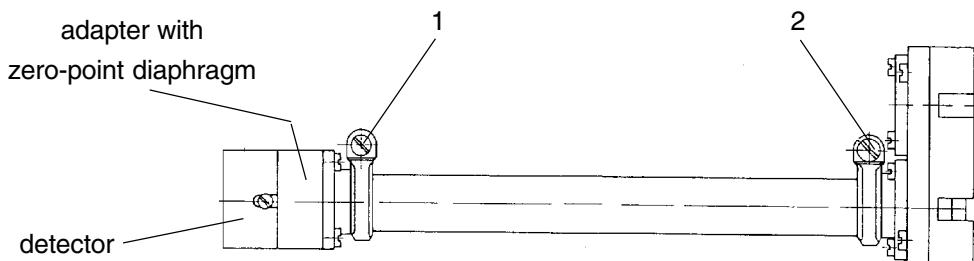

Fig. 17-4: Photometer Assembly (30 mm to 200 mm analysis cells)
- Remove the clamp shown in Fig. 17-4 as Item 1.
- Remove the clamp shown in Fig. 17-4 as Item 2.
- Position the cell body in place and fasten using the clamp shown in Fig. 17-4 as Item 2.
- Install the clamp shown in Fig. 17-4 as Item 1 and tighten.
If the turning of the light source is not sufficient, the zero point can be adjusted by sliding the zero point diaphragm at the downer side of the detectors adapter (Fig. 17-4).